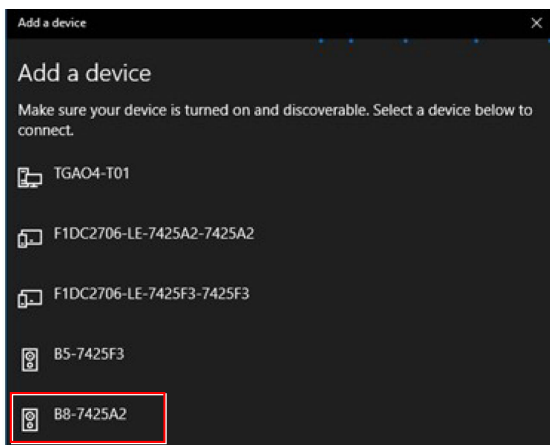
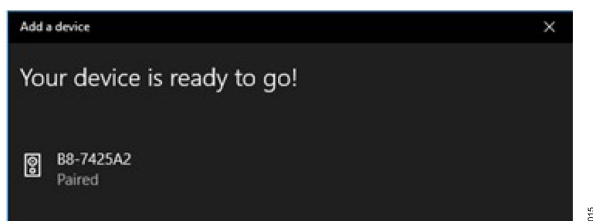

Figure 14. Select EVAL-VSMUCZ
Figure 15. Device Connected
4. Select the EVAL-VSMUCZ from the list of devices (in this example, Figure 14 shows the device as **B8-7425A2**). The device is now connected (see Figure 15).